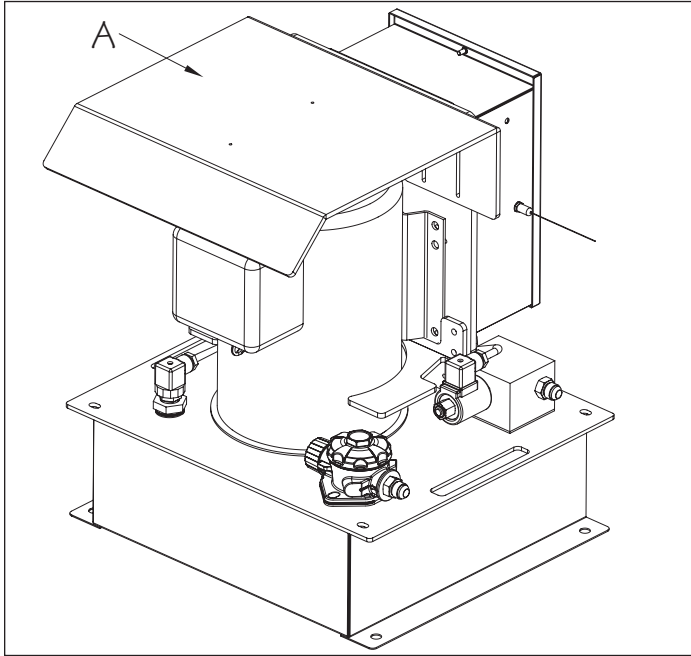

Fig. 26
The Hydraulic Power Unit should be placed on a solid, level surface, preferably not on wet ground. If placing the unit outside, it is recommended that the optional Weather Guard (A) be purchased but should not be subject to driving rain (Fig. 26). If placing the unit indoors and at a level below the pool deck, such as a basement, a floor drain is mandatory to accommodate the unlikely event of a hole developing in the hydraulic hose creating a siphon. For ample ventilation, a minimum of 12" (30,5cm) air space must be provided on all sides. In addition, the power unit **MUST** be accessible for service and maintenance purposes.